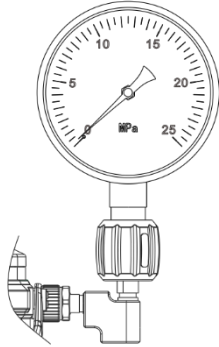

Figure 20 Connect a dial pressure gauge
- ◆ Connect the gauge as shown in Figure 20 (dial pressure gauge)/21 (digital pressure gauge).